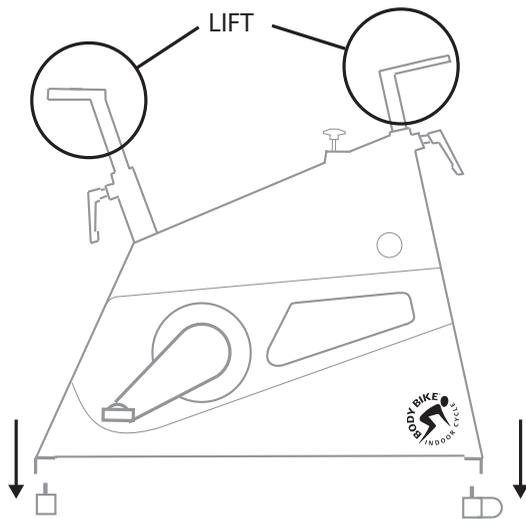

Figure 2
1. Arrange the bottom frames parallel on the floor next to the cycle with the correct mounting distance between them, see figure 2. On the front bottom frame, the transport wheels should point forward.
2. Take hold of the front post and seat post and lift the cycle onto the bottom frames, see figure 2. Ensure that the holes in the frame match the holes in the bottom frames.